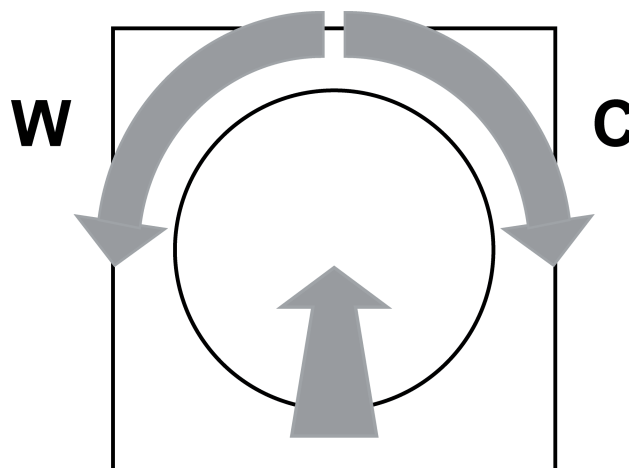

Figure 2
- i When saving the colour temperature, you must ensure that the last turn of the pressed control knob (figure 2) is made to the left for the warmest light colour (W) and to the right for the coldest light colour (C).
- Turn pressed control knob to the left (W) until reaching the warmest light colour required, and hold it in this position for more than 10 seconds.